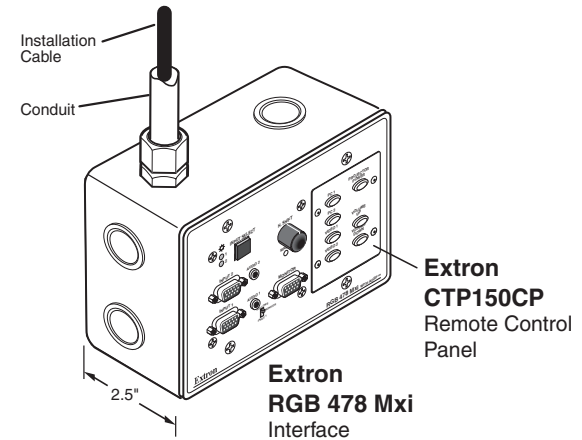

Figure 2-1 — CTP150CM in a four-gang wall box
The following Underwriters Laboratories (UL) requirements pertain to the installation of the CTP150CM into a wall or furniture (figure 2-1).